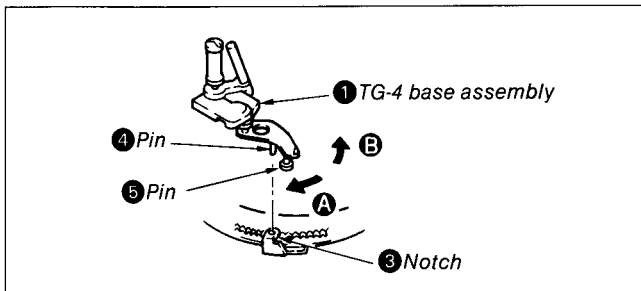
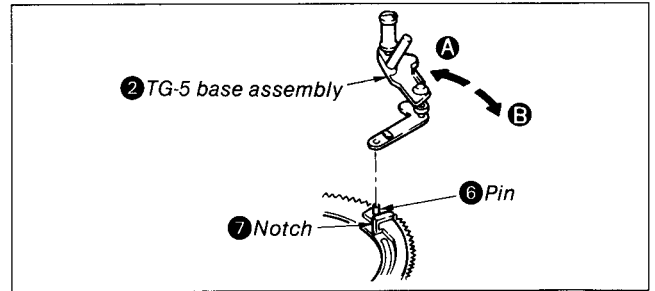

Fig. 8-25.
Fig. 8-26.
- 3) Set into **GUIDE LOAD** mode and remove TG-4 base assembly ① and TG-5 base assembly ② from the groove of the drum base.
- 4) Remove the TG-4 base assembly from the notch ③ by turning around section the upper of pin ⑤ in the direction of arrow A by centering pin ④ of the TG-4 base assembly ①. (See Fig. 8-25.)
- 5) Remove pin ⑤ from the hole of notch ③.
- 6) Remove TG-5 base assembly ② from notch ⑦ by moving it in the direction of arrow A (See Fig. 8-26)